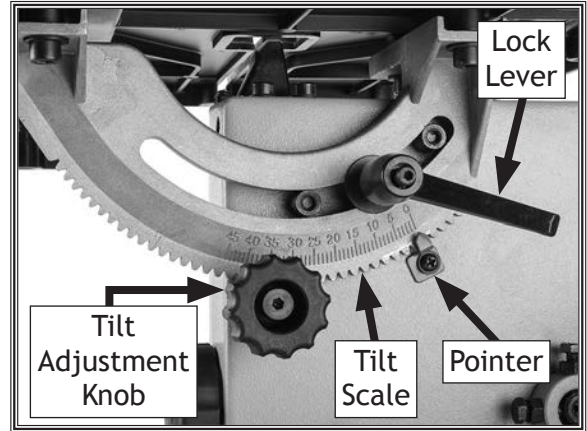

Figure 36. Table tilt controls.
The table can be tilted to make angled or beveled cuts. A simple tilt scale is provided on the trunnion for a quick gauge (see **Figure 36**). For more accurate results use a protractor.
2. Loosen table lock lever shown in **Figure 36**.